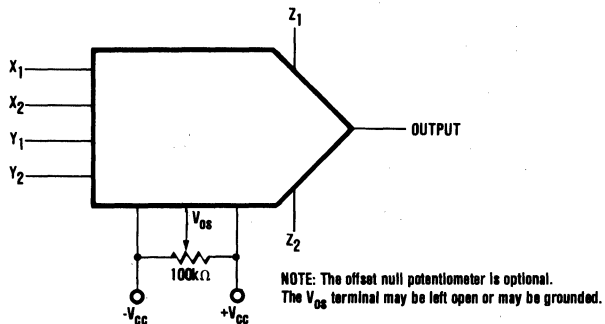

FIGURE 3. Offset Null Circuit.
3.3.3 Output offset error null. The multiplier is capable of being nulled to zero offset error using the circuit in Figure 3.